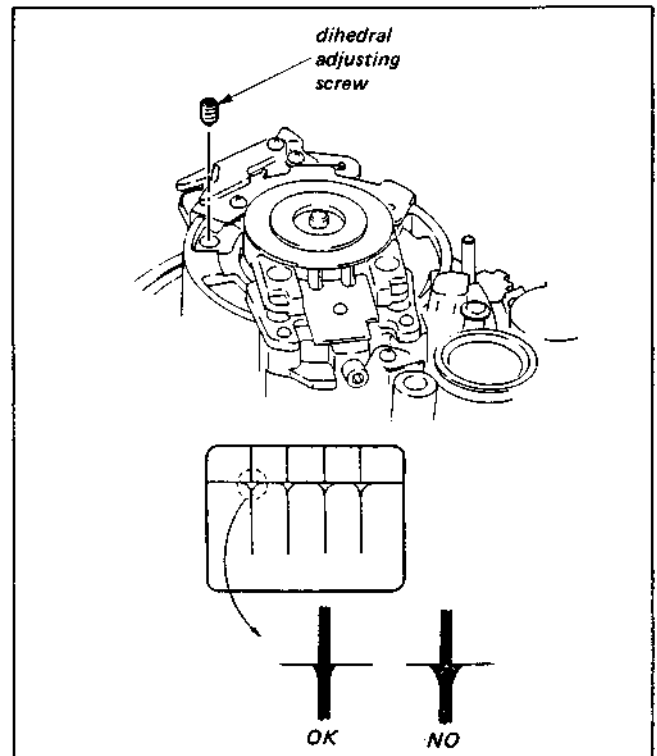
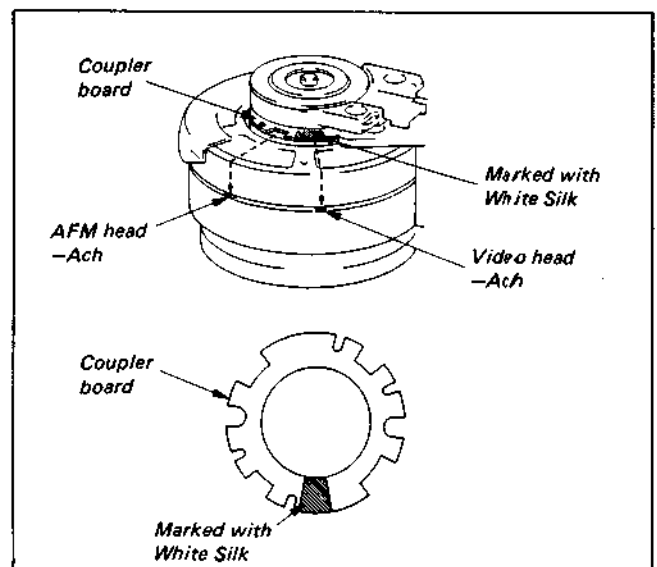

Fig. 3-10 Video Head Dihedral Adjustment (1)
Fig. 3-11 Video Head Dihedral Adjustment (2)
- 1) Insert the two dihedral adjusting screws (Jig Ref. No. J-10) into the adjusting screw holes on both sides of the video head - Ach (see Fig. 3-11) so that the tops of the adjusting screws flush with the upper face of the video head disk as shown in Fig. 3-10. (If screwing in is not sufficient, the video head disk does not rotate as the heads of the adjusting screws ram the upper drum. Conversely, if screwed in more than necessary, the head base is moved, and video head dihedral adjustment becomes very inaccurate.)
Be most careful the head under the part on the coupler board that is marked with white silk is the video head - Ach. The side marked b with white silk is the reference side. Never move it. (See Fig. 3-11.)